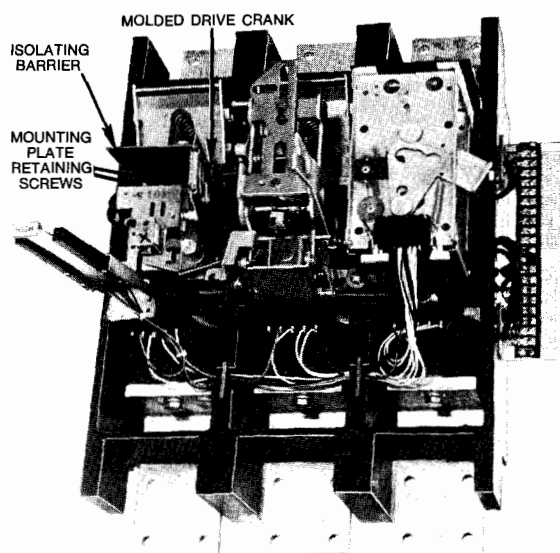

Fig. 10
1. Replace molded drive crank onto mechanism drive pin engaging roll pins into slot in drive crank. (See Fig. 10).
2. Place mounting plate in position so that its two (2) operating studs engage the molded drive crank, see Fig. 10. Be sure isolating barrier is between mounting plate and crossbar.